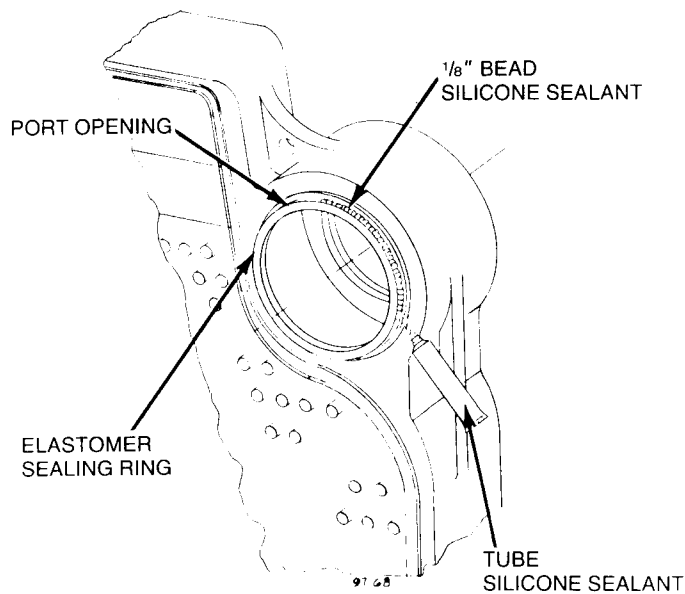

FIGURE 3
5. Combustion products and unburned oil vapors can cause failure of the elastomer sealing rings. After the elastomer sealing rings have been set in the port openings of the section, make a 1/8" diameter continuous bead of silicone sealant around the outside of the rings. Follow this procedure for each sealing ring installed (see FIGURE 3).